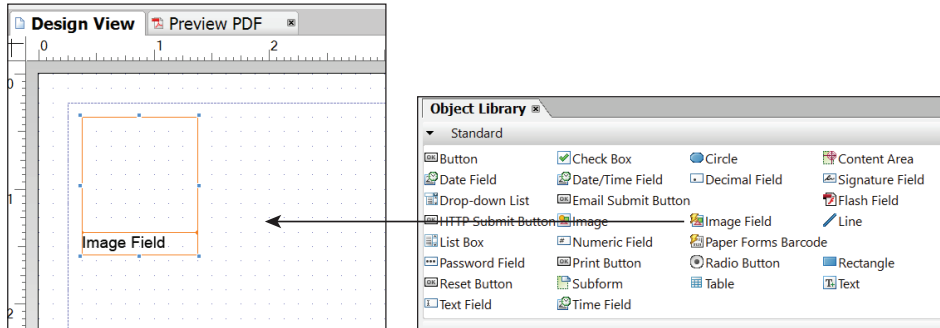

Figure 18.88 Adding Image Field
1. To add the image field, drag the image field from the STANDARD GROUP under the OBJECT LIBRARY and drop it in the design view, as shown in Figure 18.88.